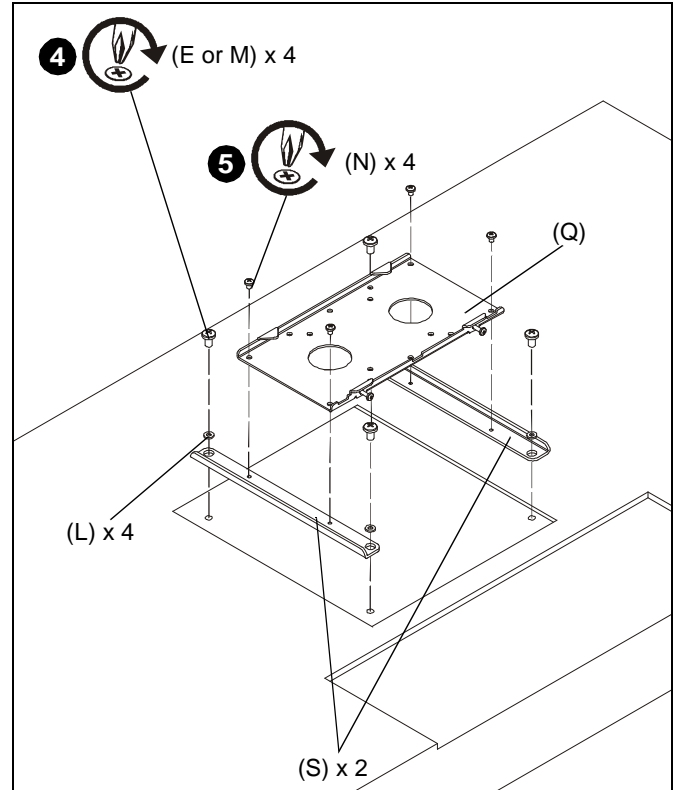

Figure 9
- Use four M4x12mm Phillips pan machine screws (E) or M6 x 10mm (M) and four M4 washers (L) to secure two adapter brackets (S) to back of display. (See Figure 9)
- Use four M4x5mm Phillips machine screws (N) to secure front plate (Q) to adapter brackets (S). (See Figure 9)